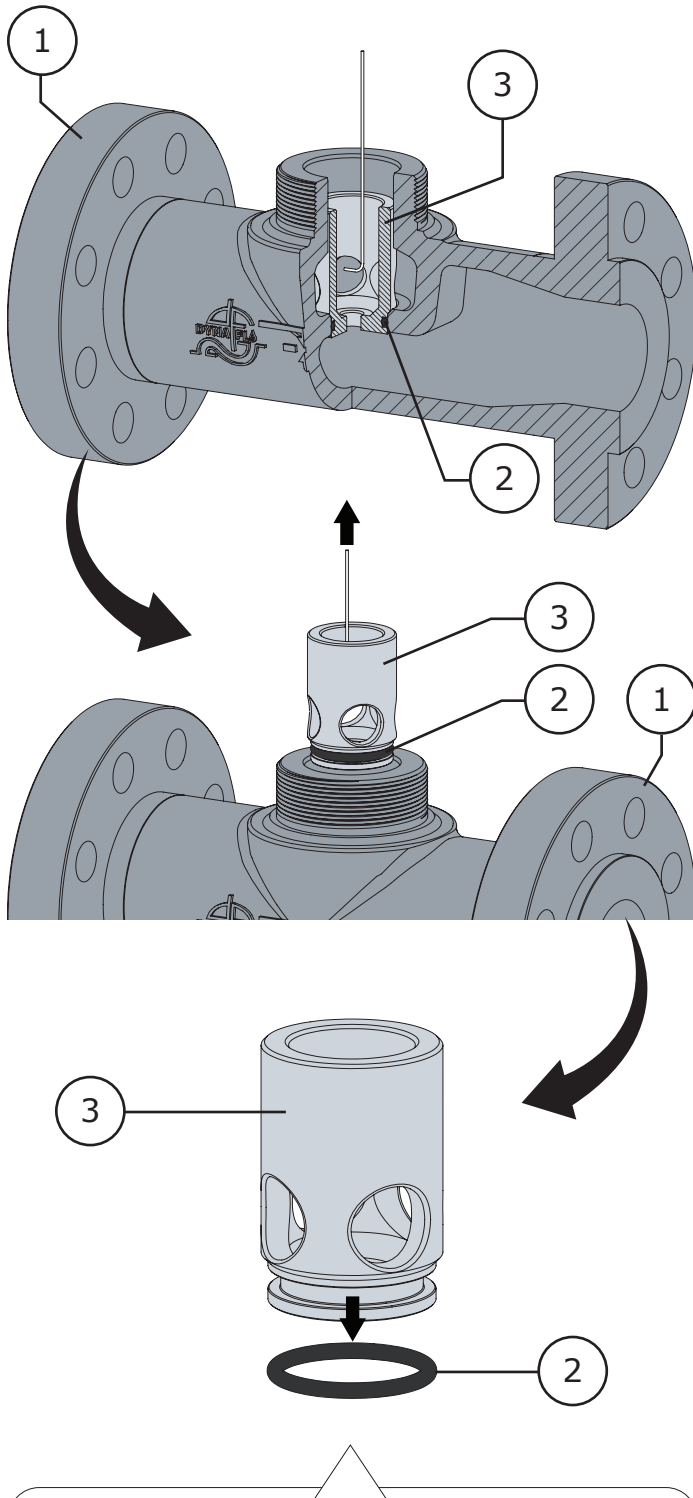
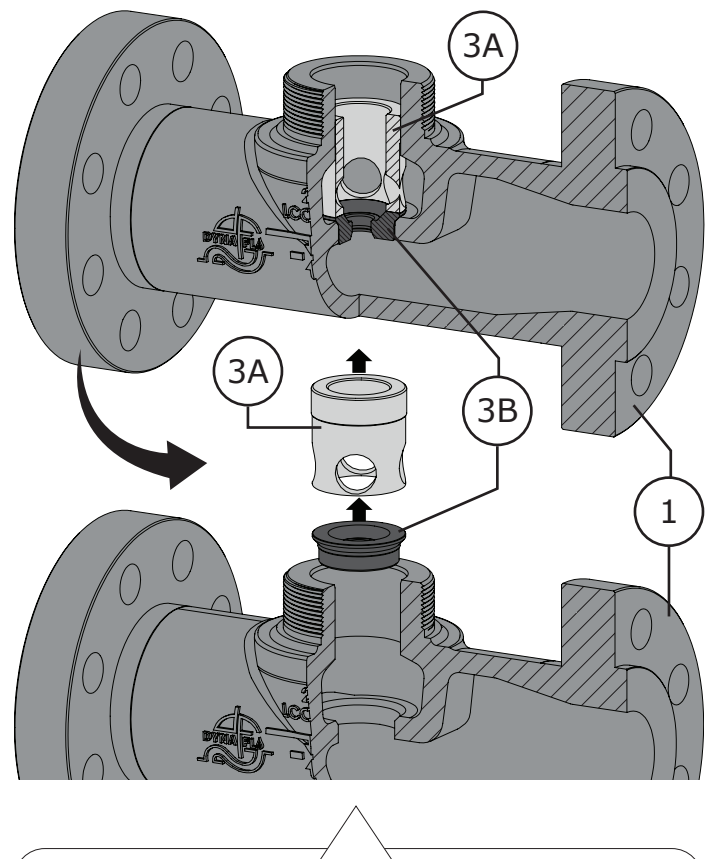

Figure 5 One-Piece Cage/Seat Ring Removal
Figure 6 Discontinued Two-Piece Cage/Seat Ring Removal
NOTE: For standard valve construction the cage and seat ring are one-piece (refer to Figure 5). Two-piece cage and seat ring designs were used in the past for optional trim materials but are considered one part (refer to Figure 6).
- 1 Using a mechanic's pick carefully remove the cage/seat ring assembly (Key 3) using the cage window if necessary. **NOTE:** Be very gentle when removing the cage/seat ring assembly using the cage windows and avoid damaging the cage. Refer to Figure 5.
- 2 Using a mechanic pick set, remove and replace the seat ring o-ring (Key 2). **NOTE:** When possible, used o-rings should be replaced. Refer to Figure 5.
- 1 Carefully remove the cage (Key 3A) as shown in Figure 6. The cage from a two-piece design is set on top of the seat ring (Key 3B) and easily removed.
- 2 If necessary use a mechanic pick set and remove the seat ring (Key 3B) as shown in Figure 6. **NOTE:** Seat rings from a two-piece design do not use an o-ring (Key 2) and are easily removed.